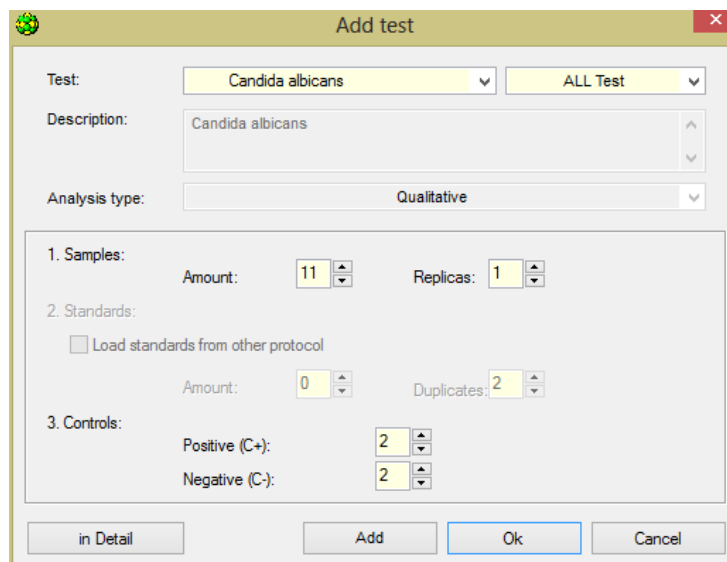

Fig.47 "Add test" window
3. Click on the button **Add test**  of the **Protocol tab**. The window **Add test** is opened (Fig.47).